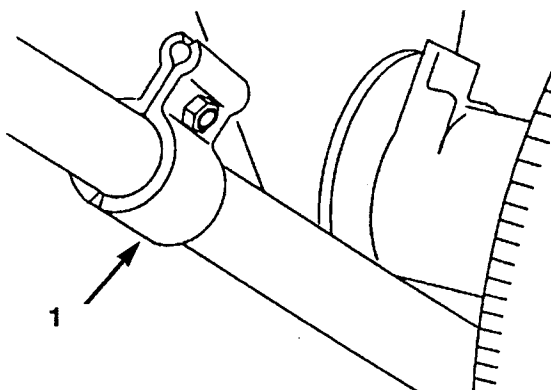

Figure 37
6. Loosely install a clamp to each side of the mower handle, using carriage bolts and lock nuts (Fig. 37). Make sure the clamps slide on the handle.